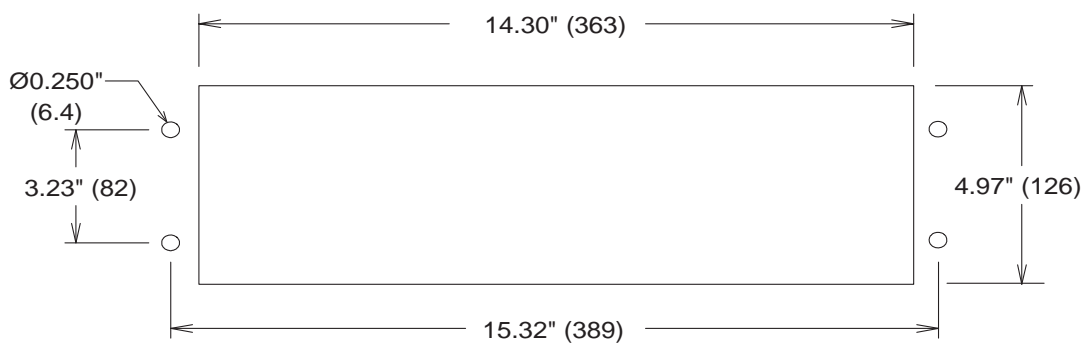

Figure 31. Panel Mounting Cutout
3. See Figure 31 above for panel cutout dimensions. Tolerance for all dimensions: ± 0.01 " (0.25 mm).